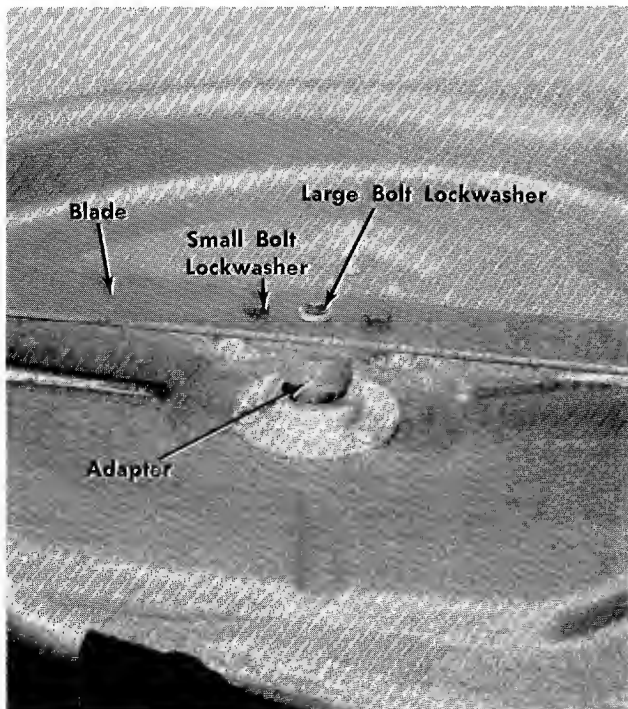

FIGURE 30.
1. Remove the large bolt and lockwasher holding the blade and adapter to the blade spindle. See figure 30.